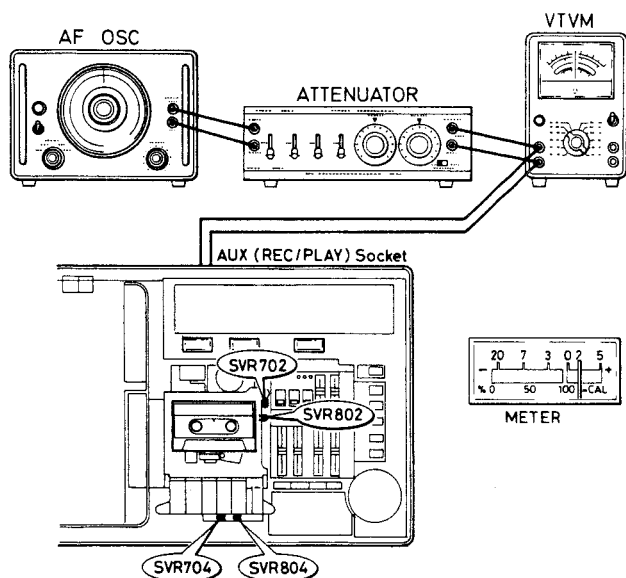

Fig. 18
6. Obtain a meter reading of $+2\text{VU} \pm 0.5\text{dB}$, adjusting SVR702 and SVR802. (Fig. 18)